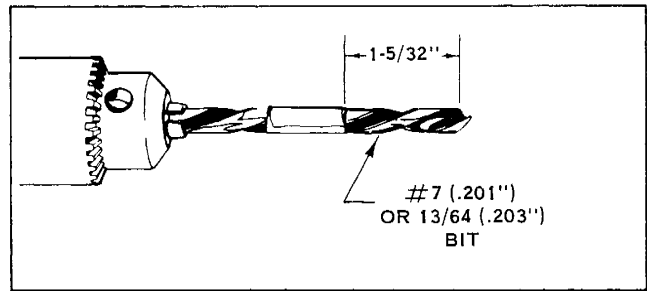

FIGURE 2
5. Wrap a piece of masking tape around a #7 (.201" diameter) or 13/64" (.203" diameter) drill bit at a point 1-5/32" above the tip of the bit. See Figure 2.